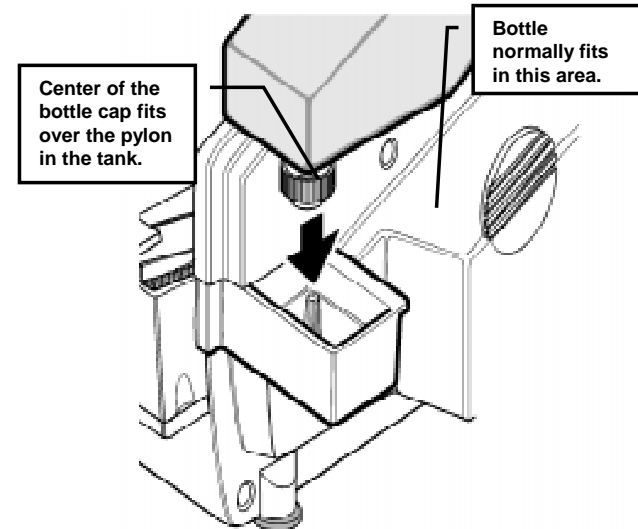

*Figure 9 - Handling the Heater Assembly*
**CAUTION:** Under normal operating conditions, the bottom of the heater assembly may be HOT. Handle the assembly ONLY by the tabs sticking out from the sides. See Figure 9.